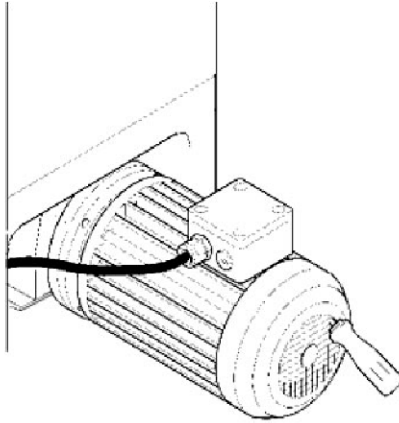

Fig. 5-17 Blocking the motor
5. See Figure 5-17. Block the motor rotation by inserting a screwdriver in to the inner fan assembly.